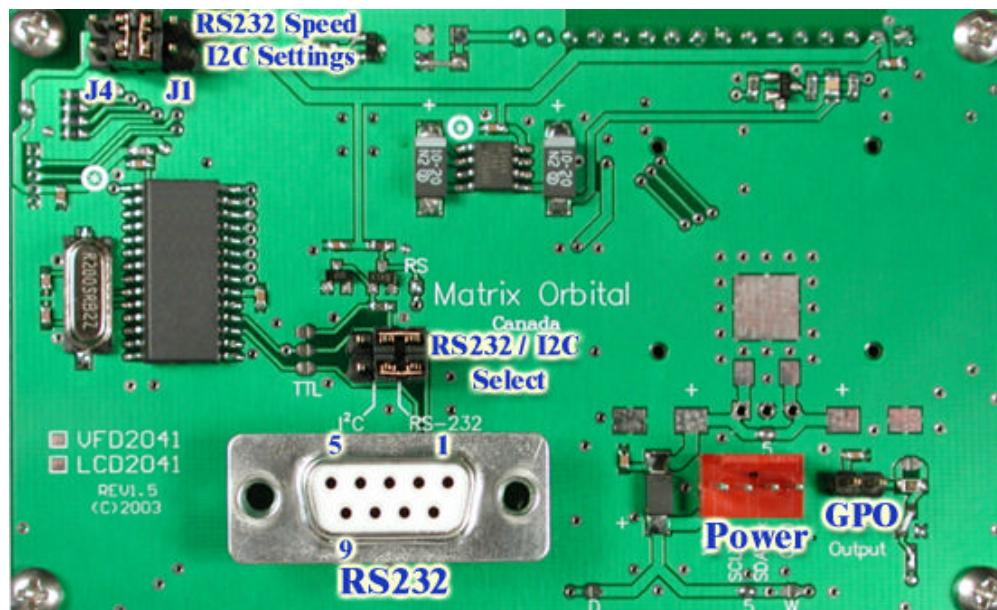

Figure 2-1 Electrical Connections
1. Refer to the diagram above and Figure 2-1 for the following steps.
Power is applied via pins 1 and 4 as shown in Figure 2-1. Power requirement for standard units is +5 VDC $\pm 0.25\text{V}$ (units with the wide voltage range option require 7 – 15 Vdc or 7 – 35 Vdc). Power may also be supplied via the RS-232 connector as described in section 2.2.2.